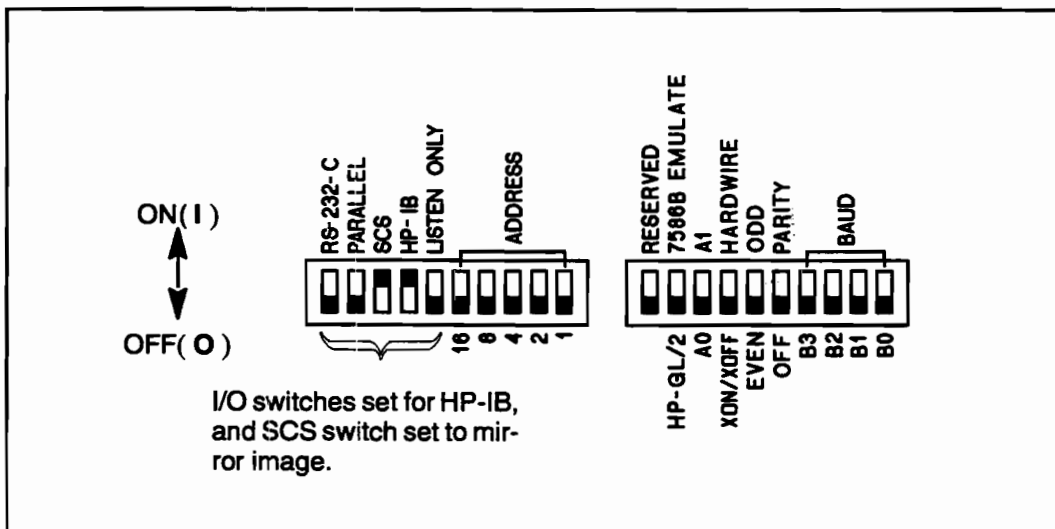

Figure 3-62. Mirror Image Setting
1. Set one of the I/O switches (RS-232-C, parallel, SCS, or HP-IB) to the UP position and the other three DOWN. See Figure 3-62.